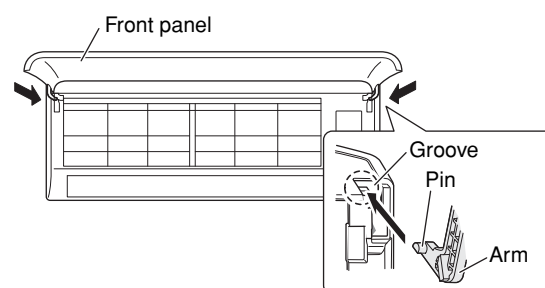

Fig. 18-3
- (1) Insert the bottom of the grille into the frame.
- (2) While aligning both edges of the grille with the frame, move the grille horizontally and insert the top and bottom into the frame.
- (3) Press the grille firmly with your hand to ensure no gap exists between the frame and grille.
- (4) Tighten the 2 screws and close the screw covers.
- (5) Grasp the sections near the front panel arms on both sides, hold the front panel so that it is nearly horizontal, bring the arm shafts into contact with the top of the grooves on the right and left sides of the air conditioner, and then push firmly until the arm shafts click into place. (Fig. 18-3)